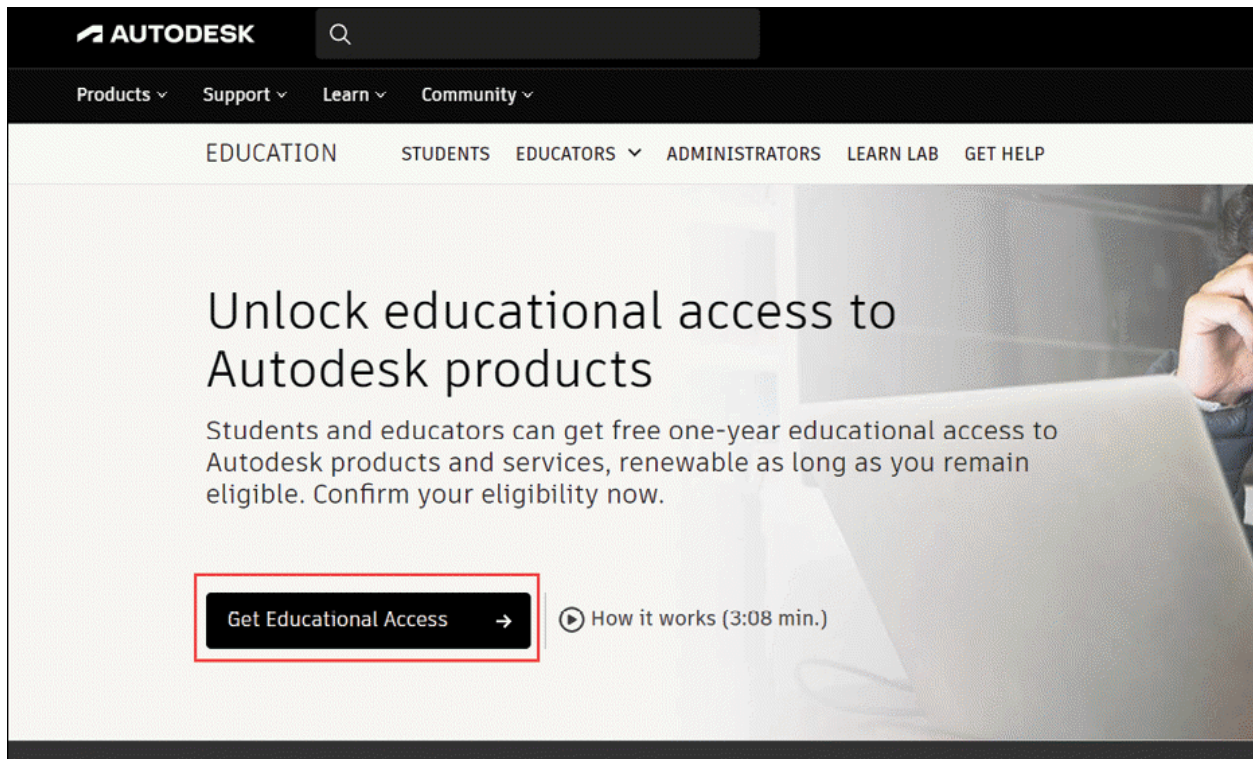

Figure-5. Get Educational Access button
- Click on the **Get Educational Access** button from the page; refer to Figure-5. The web page to confirm your educational status will be displayed.